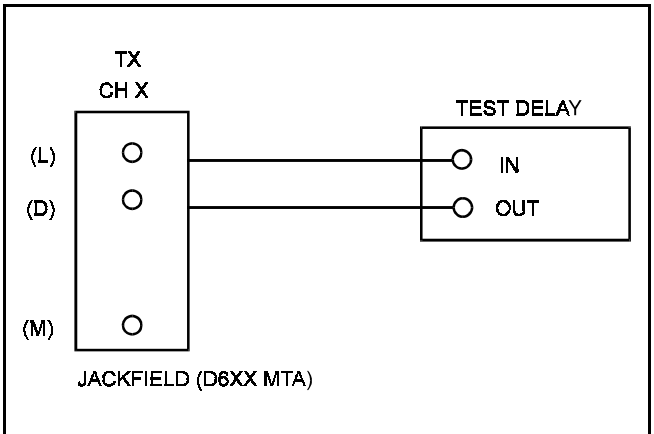

Figure 5 - Test Setup, 300 Hz Polarity Check
2. Connect the test delay in series with the Tx modem audio going to the site under test on the control channel as shown in Figure 5.